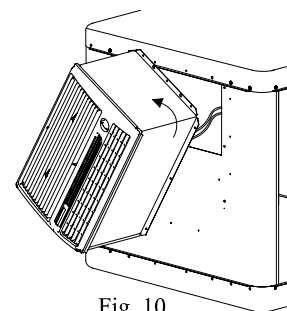

Fig. 10
3. Rotate the tunnel 90 degrees counter-clockwise (Fig 10). Be careful as you rotate the tunnel that you don't damage or disconnect the cords which are still connected to the controls and the front panel.